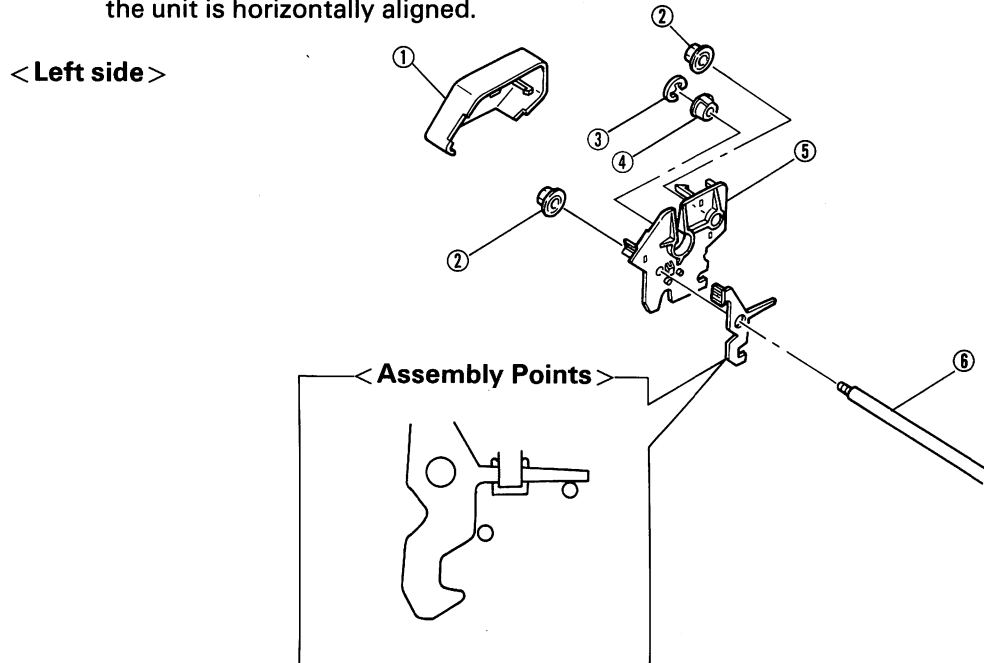

Fig. 4-17 Left Side Plate Removal
4.2.17 Sprocket Unit Removal (Figs. 4-17 through 4-21)